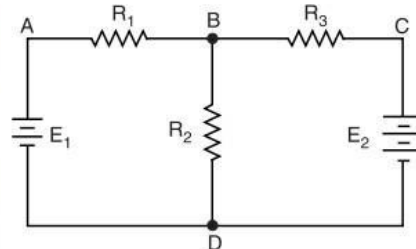

Fig. 3.1
- (iv) **Active element.** An active element is one which supplies electrical energy to the circuit. Thus in Fig. 3.1,  $E_1$  and  $E_2$  are the active elements because they supply energy to the circuit.
- (v) **Passive element.** A passive element is one which receives electrical energy and then either converts it into heat (resistance) or stores in an electric field (capacitance) or magnetic field (inductance). In Fig. 3.1, there are three passive elements, namely  $R_1$ ,  $R_2$  and  $R_3$ . These passive elements (*i.e.* resistances in this case) receive energy from the active elements (*i.e.*  $E_1$  and  $E_2$ ) and convert it into heat.
- (vi) **Node.** A node of a network is an equipotential surface at which *two or more* circuit elements are joined. Thus in Fig. 3.1, circuit elements  $R_1$  and  $E_1$  are joined at  $A$  and hence  $A$  is the node. Similarly,  $B$ ,  $C$  and  $D$  are nodes.
- (vii) **Junction.** A junction is that point in a network where *three or more* circuit elements are joined. In Fig. 3.1, there are only two junction points *viz.*  $B$  and  $D$ . That  $B$  is a junction is clear from the fact that three circuit elements  $R_1$ ,  $R_2$  and  $R_3$  are joined at it. Similarly, point  $D$  is a junction because it joins three circuit elements  $R_2$ ,  $E_1$  and  $E_2$ .
- (viii) **Branch.** A branch is that part of a network which lies between two junction points. Thus referring to Fig. 3.1, there are a total of three branches *viz.*  $BAD$ ,  $BCD$  and  $BD$ . The branch  $BAD$  consists of  $R_1$  and  $E_1$ ; the branch  $BCD$  consists of  $R_3$  and  $E_2$  and branch  $BD$  merely consists of  $R_2$ .
- (ix) **Loop.** A loop is any closed path of a network. Thus in Fig. 3.1,  $ABDA$ ,  $BCDB$  and  $ABCD$  are the loops.
- (x) **Mesh.** A mesh is the most elementary form of a loop and cannot be further divided into other loops. In Fig. 3.1, both loops  $ABDA$  and  $BCDB$  qualify as meshes because they cannot be further divided into other loops. However, the loop  $ABCD$  cannot be called a mesh because it encloses two loops  $ABDA$  and  $BCDB$ .